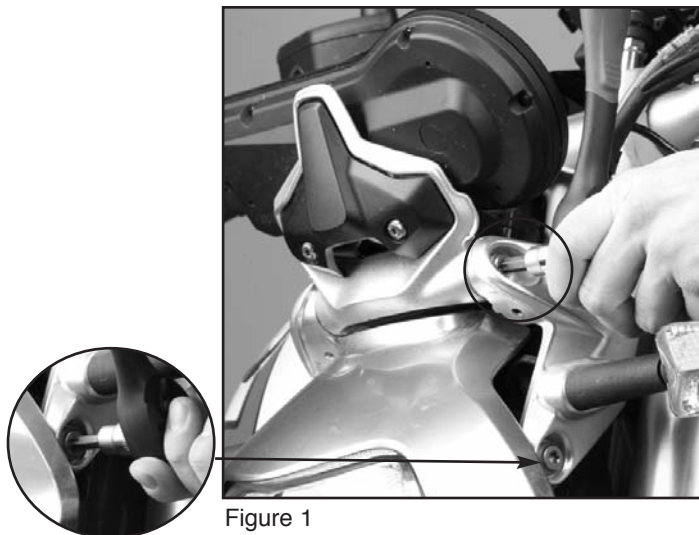

Figure 1
1. On the left side of the motorcycle, remove the upper and lower screws from the turn signal bracket. OEM screws will not be re-used. **(T40 Torx Wrench) Figure 1**